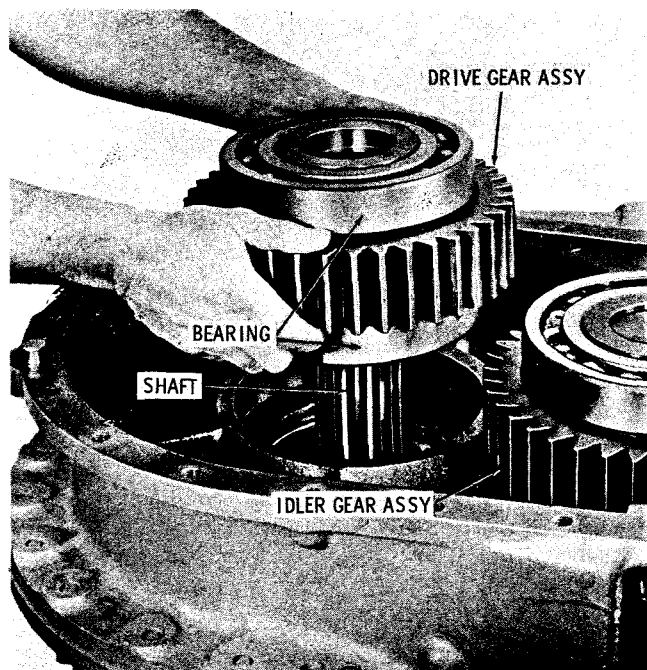

Fig. 5-89. Removing transfer drive gear assembly
(11) Remove output drive gear and bearings from the transmission output shaft (fig. 5-89). Refer to paragraph 6-35 for rebuild of the drive gear. Remove the output idler gear with its two bearings from the transfer gear housing. Refer to paragraph 6-36 for rebuild of the idler gear.